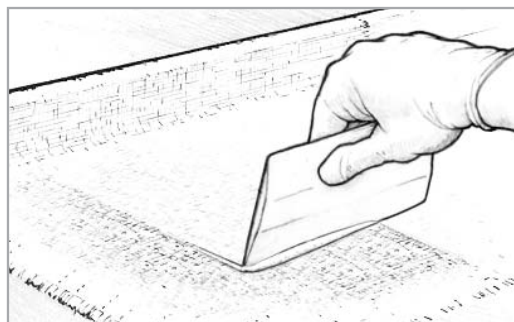

Figure 8-18 Squeegee away excess epoxy before the first batch begins to gel.
7. Squeegee away excess epoxy before the first batch begins to gel (*Figure 8-18*). Drag the spreader over the fabric, using even-pressured, overlapping strokes. Use enough pressure to remove excess epoxy that would allow the cloth to float off the surface, but not enough pressure to create dry spots. Excess epoxy appears as a shiny area, while a properly wet-out surface appears evenly transparent, with a smooth, cloth texture. Later coats of epoxy will fill the weave of the cloth.